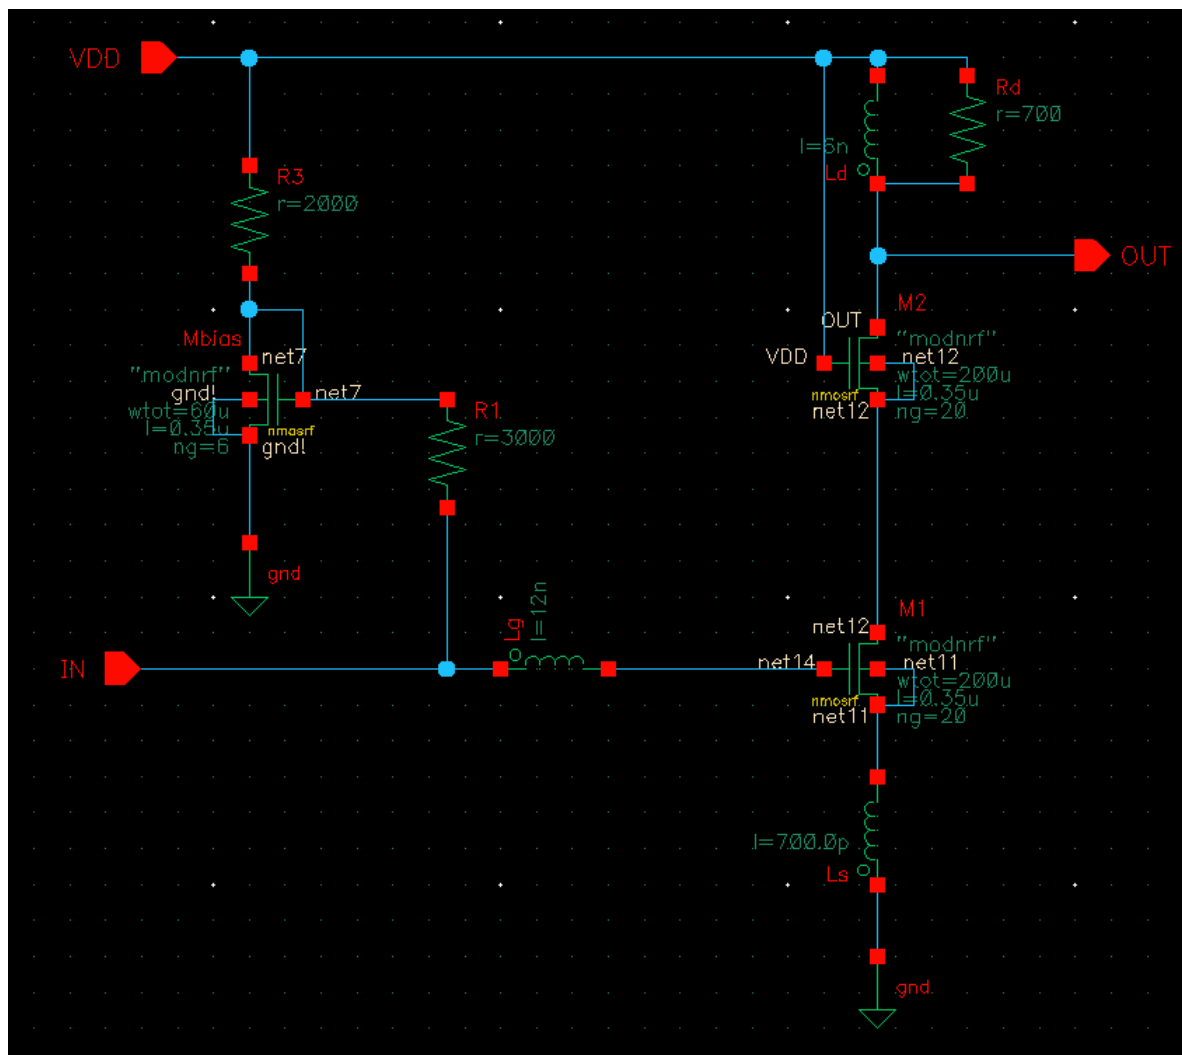

Fig. 1. LNA Circuit Diagram (Source Inductor Degenerated LNA)
- Create and draw the schematic **LNA** as shown in Fig. 1. The components values are listed below.